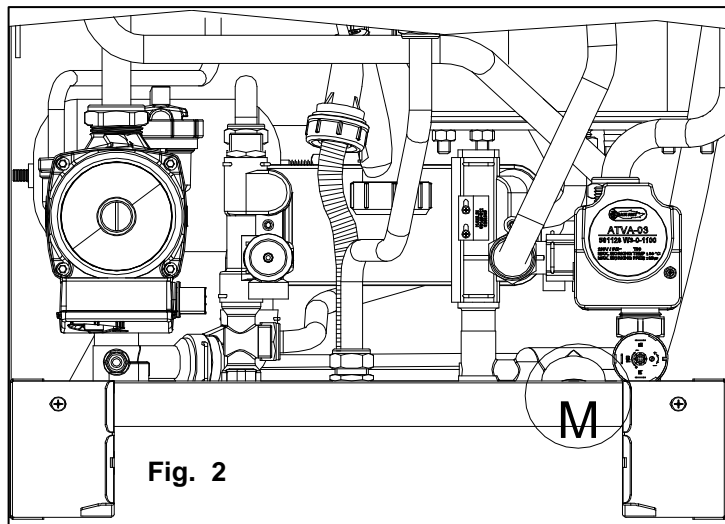
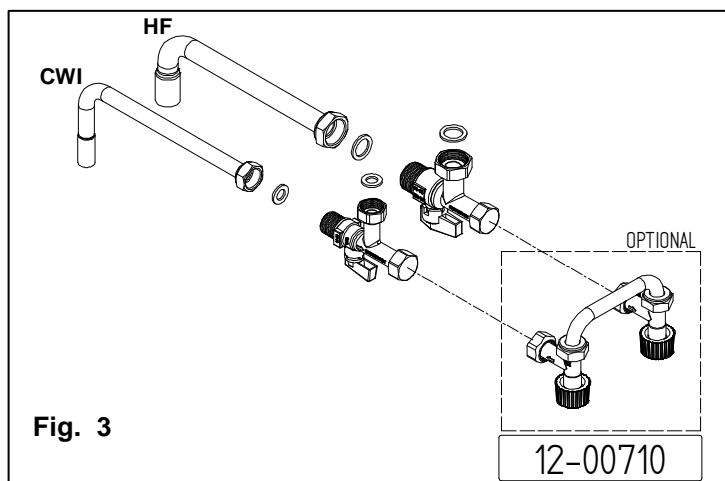

Fig. 2
Fig. 3
The water pressure in the central heating circuit must be checked during the entire period of operation of the boiler. In this respect, the reading on the pressure gauge **M** (see fig. 2), located on the lower part of the boiler, must not be less than 1 bar.
To bring the system back up to pressure, open the external filling loop valve (see fig. 3) and use the pressure gauge **M** (see fig. 2) to check that the system pressure reaches 1 bar and that the code **H2O** lights up.
- Check the water pressure in the central heating circuit. The reading on the pressure gauge **M** (see fig. 2), located on the lower part of the boiler, must not be less than 1 bar .